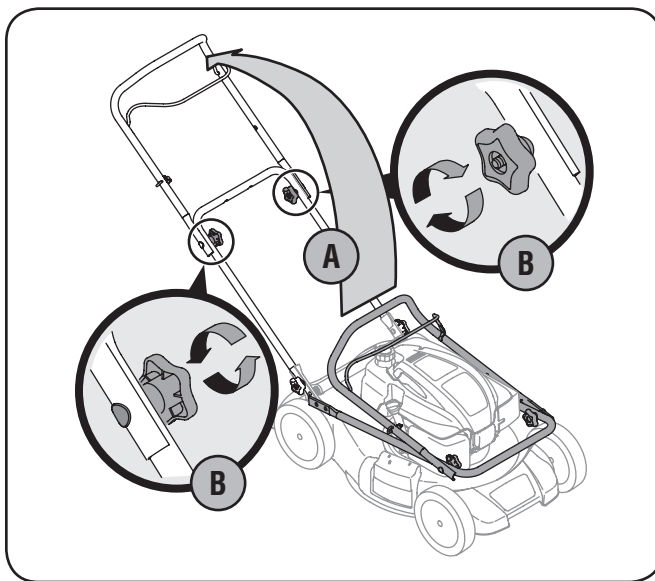

Figure 3-1
- a. Pull up and back on upper handle as shown in Fig. 3-1. Do not crimp cable while lifting the handle up. Remove star knobs from handle mounting brackets and secure the lower handle onto the handle brackets by placing the lower hole of the lower handle onto the pins of the handle brackets.
- b. Tighten star knobs securing upper handle to lower handle. See Fig. 3-1. Make sure that each carriage bolt is seated properly in the handle.